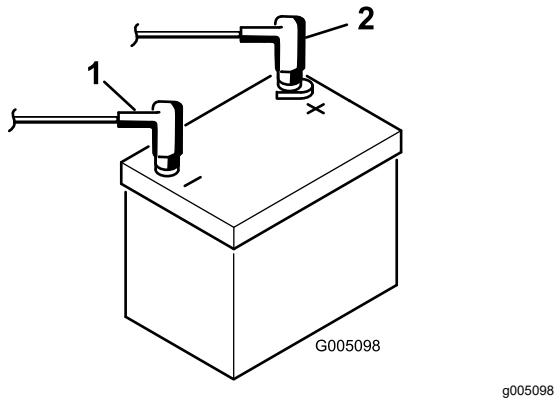

Figure 9
- Install the positive cable (red) to the positive (+) terminal and then the negative cable (black) to the negative (-) terminal of the battery and secure them with the bolts and nuts (Figure 9). Slide the rubber boot over the positive terminal to prevent a possible short from occurring.